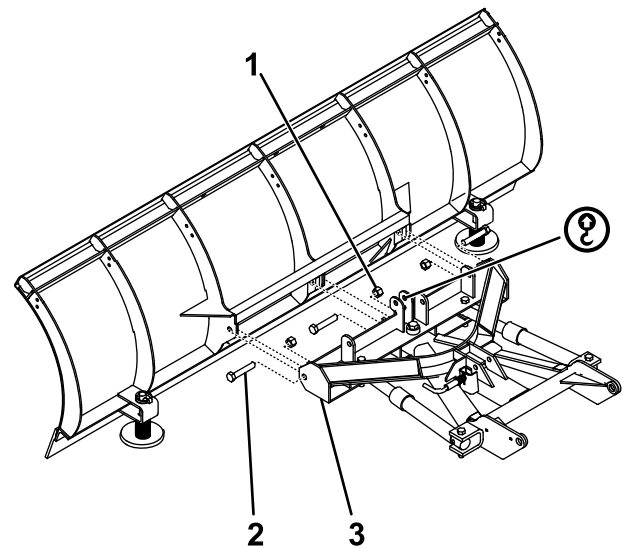

Figure 4
1. Attach the front of the push-frame assembly to the plow blade using 3 bolts (3/4 inch) and self-locking nuts (Figure 4).